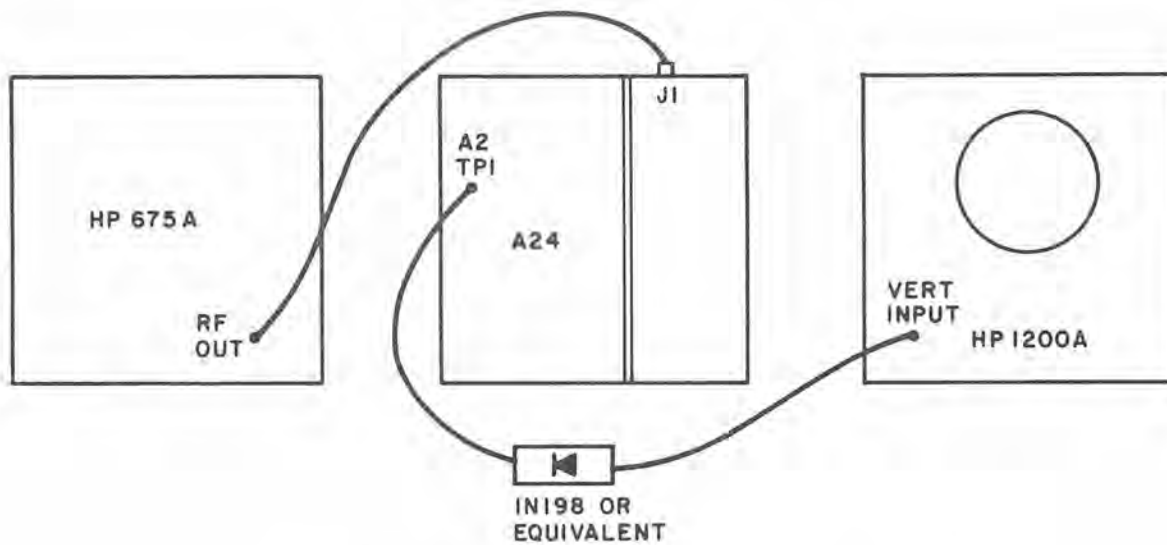

Figure 5-11. A24 Spectrum Monitor 21.4 MHz
- (1) Apply +20 Vdc to C1 on rear panel.
- (2) Connect test equipment as shown on figure 5-11.
- (3) Set sweep generator frequency to 21.4 MHz, sweep width to 10 MHz, and output level to -30 dBm.
- (4) Set oscilloscope sensitivity to 5 mV/cm.
- (5) Adjust SM GAIN adjust R1 on front panel to produce a 5-division deflection on oscilloscope.
- (6) Adjust in turn L1, L2, and L3 for a flat top, symmetrical response, centered at 21.4 MHz.